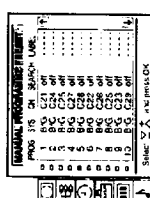

Fig. 21
- 3 Select "Manual Programme Preset" with **Δ**+ or **▽**- and press OK. The MANUAL PROGRAMME PRESET menu appears. (See Fig. 21.)